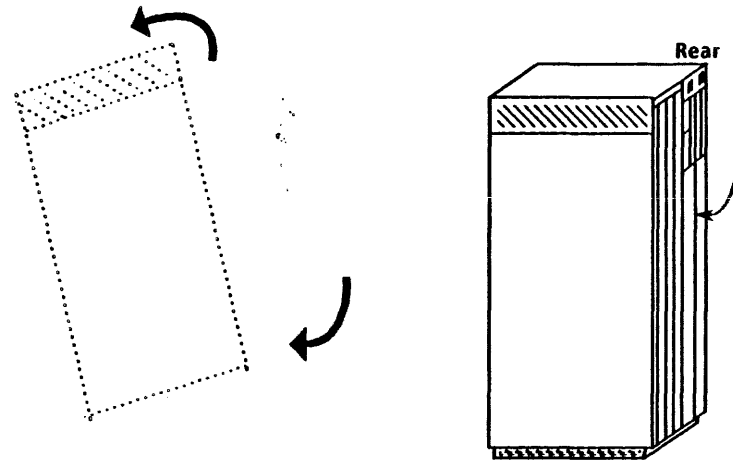

Figure 2. Unpacking the Processor Unit
4. Tilt until the bottom of the Processor Unit touches the floor. (Refer to Figure 2.)